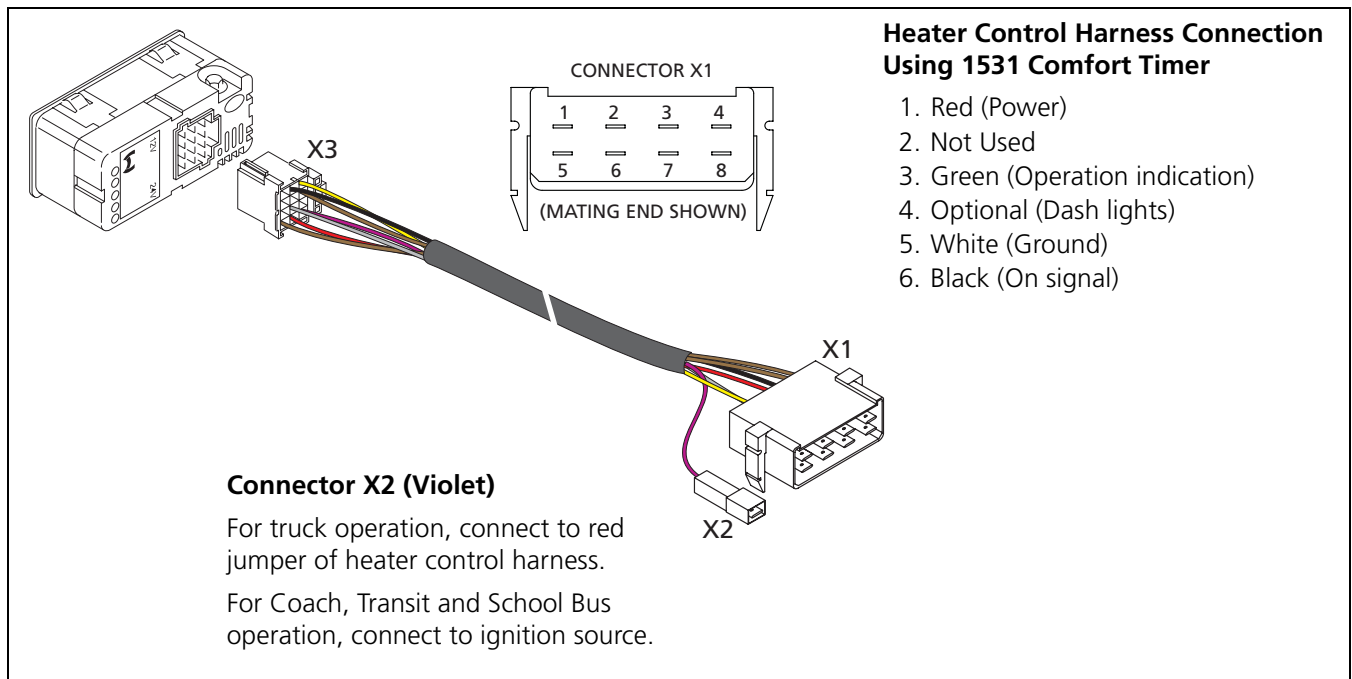

Figure 31: 7-Day, 3 Program Comfort Timer model 1531
- Timer, see circuit diagrams in Figures 31 and 33.